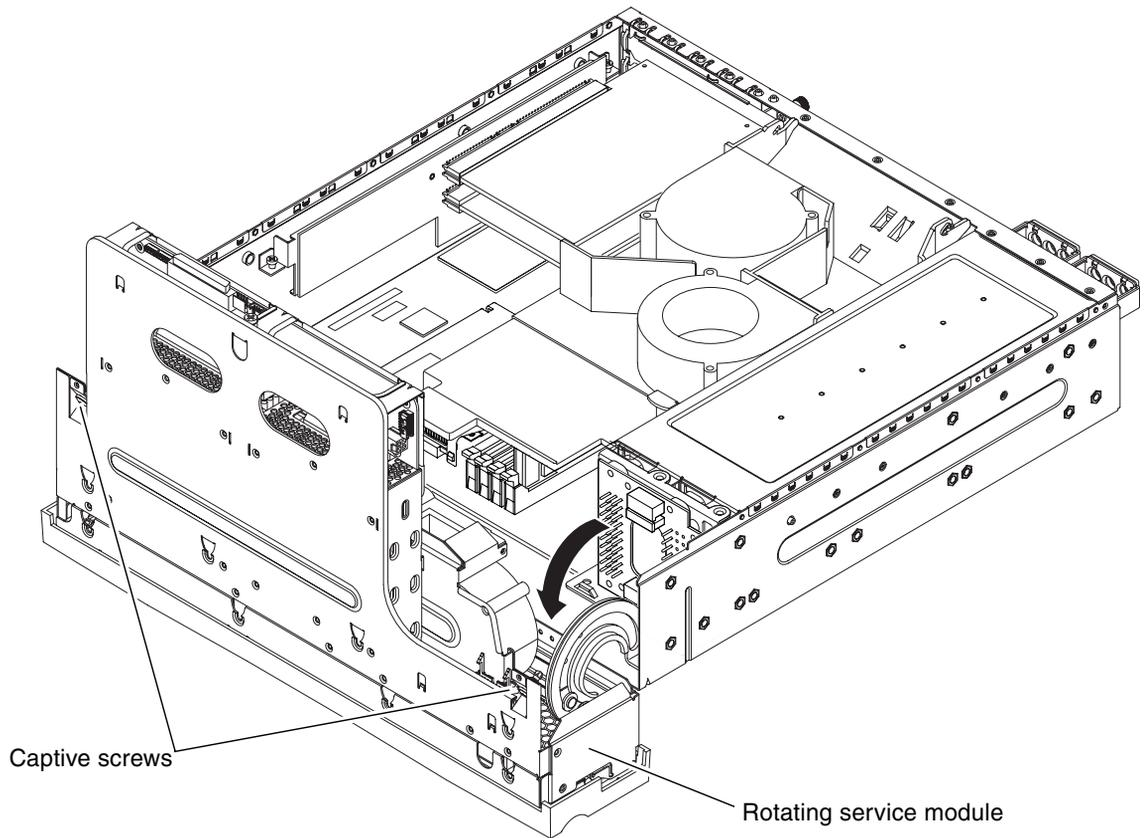

FIGURE 2-7 Opening the Rotating Service Module
- 3. Loosen the two captive screws on the rotating service module and open the module (FIGURE 2-7).**
2. Tighten the two captive screws to secure the rotating service module to the server (FIGURE 2-7).